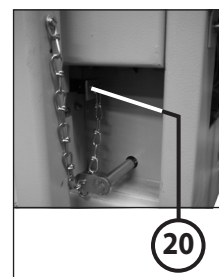

fig. 8
2. Fix the chain end of the limit switch lock (20) supplied with the baler to the sub-frame of the shredder (21) in the hole provided (fig. 8).
3. Insert the actuator (special key) of the limit switch lock (20) into the limit switch on the baler (fig. 8).
- a) **Lit** if the connection plug of the baler is **not** plugged into the socket (19) on the shredder. At the same time, the display (5) **flashes**.
- b) **Lit** if the actuator of the limit switch lock (20) is **not** inserted in the limit switch on the baler (fig. 8).
- c) **Lit** if the filler flap (24) or the ejector flap (25) is **not** closed.